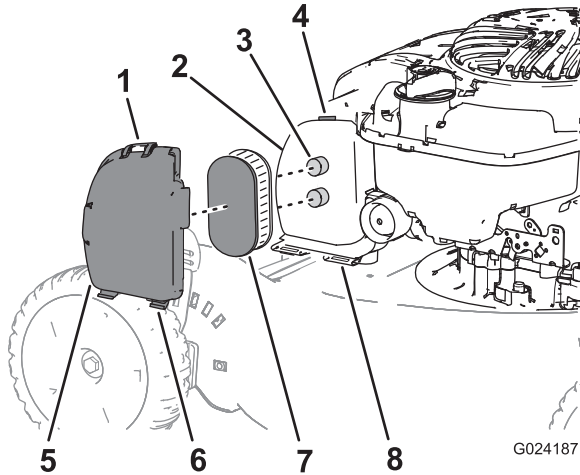

Figure 15
1. Press the top tab on the air cleaner cover (Figure 15) and open the cover.
2. Remove the air-cleaner element (Figure 15).